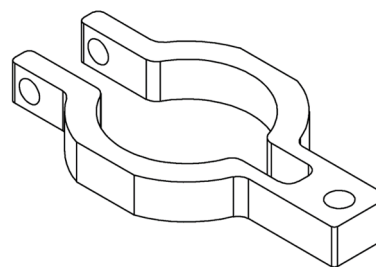

Figure 2: Heavy Duty Mounting Bracket (optional)
- The heavy-duty mounting bracket as shown in Figure 2 should be used when the sensor is to be installed on equipment frames (e.g., reclosers) before shipment. It is designed to withstand the vibration that occurs during shipment while attached to equipment.